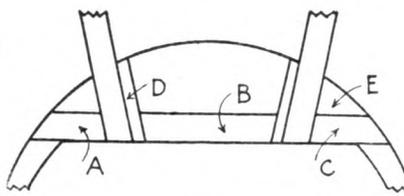

Fig. 2
A further line, $\frac{1}{2}$ in. to the inside of those already drawn, should be put in parallel to these, to indicate the position of the cross-board D (Fig. 2).
When the positions of all the legs and boards have been drawn in, then the battens (A), (B) and (C) (seen in Fig. 2) can be dealt with. These are cut from 1in. by 2ins. stuff, and should be sawn to fit the spaces shown by the drawings